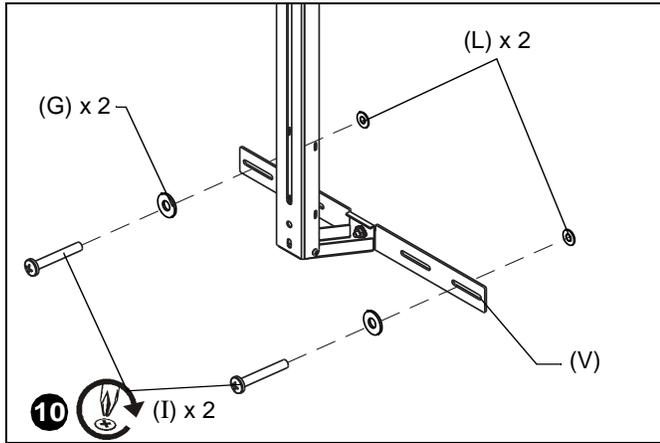

Figure 25
- Use two 1/4-20 x 1-3/4" Phillips pan machine screws (I) and two 1/4" flat washers (G) to attach each lower wall bracket (V) to anchors in wall. (See Figure 25)